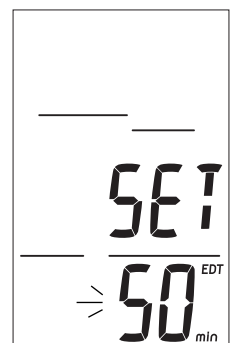

Fig. 22 - Set EDT AL
**Set EDT Alarm**, information includes (Fig. 22):